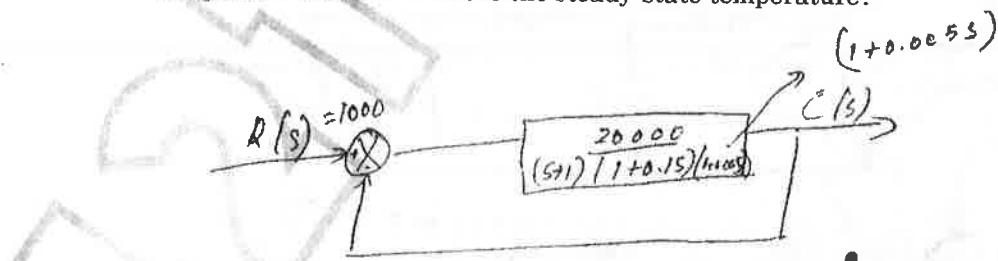

Figure 2
3. The block diagram shown in the Figure 2 represents a heat treating oven. The set point is 1000°C . What is the steady-state temperature?